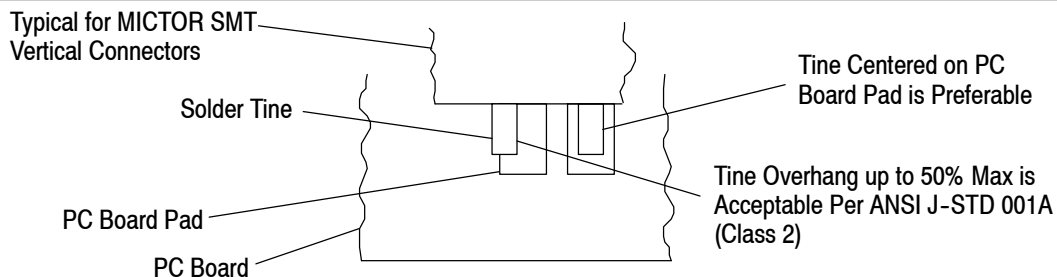

Figure 6
- NOTE**  Optimally, the connector solder tines should be centered on the pc board pads. However, slight misalignment is permissible. See Figure 6.